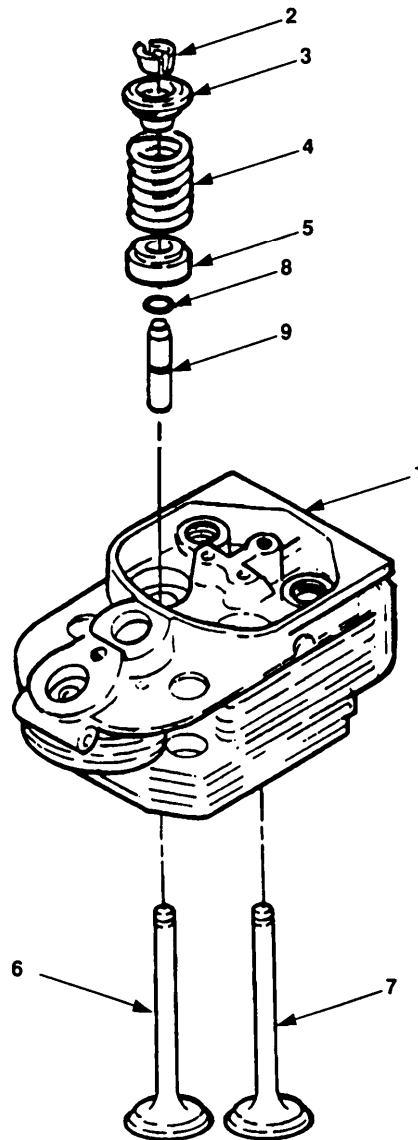

Figure 6-2. Cylinder Head Disassembly.
- l. Insert Mandrel (3) into chamber side of valve guide and drive guide out of cylinder head (4).
- n. Place new valve seat (5) on drift with chamfered side up and drive seat into recess of cylinder head (4). Ensure that seal is fully inserted.
- o. After head cools, reem valve guides using special 8.0 mm (0.3149 in) reemer (6).
- a. Install valve guides (figure 6-2, 9) and locating rings (8).
- b. Install valves (6 and 7) into cylinder head (1).
- c. Install valve rotor or spring seat (5).
- d. Install two springs (4).
- e. Install two spring caps (3).
- f. Install two tapered valve spring keepers (2).
- d. Remove two thrust pads (8).
- e. Remove two studs (9) from rocker bracket (10).